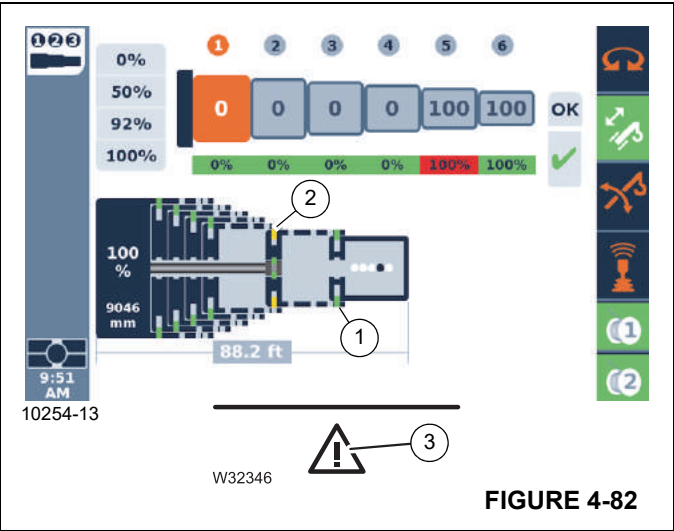

FIGURE 4-82
Current relation of the telescopic sections to each other – section of top view Figure 4-82.
The image shown in Figure 4-82 shows the status of the section and cylinder pins. Green (1) indicates that the pin is locked, Yellow (2) shows that it is in an intermediate position and Red is unlocked. Additionally, if the hazard triangle (3) is present, an error exists.